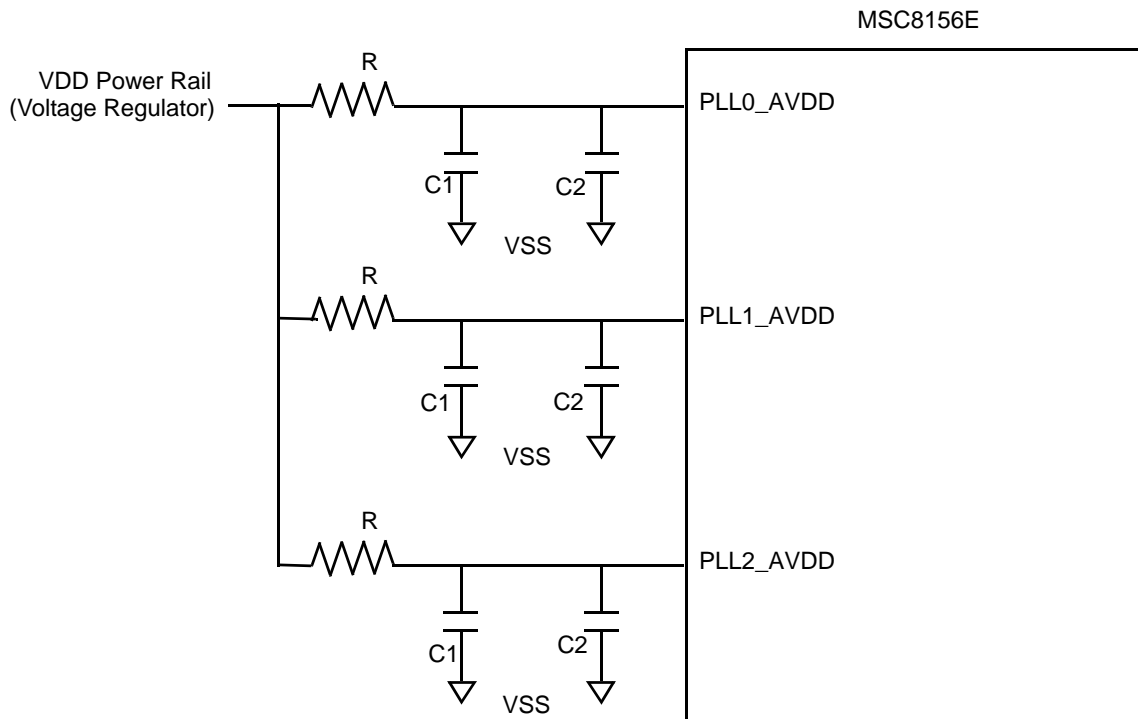

Figure 37. PLL Supplies
- Couple inputs PLL1_AVDD, PLL2_AVDD and PLL3_AVDD with the VDD power rail using an RC filter (see Figure 37).
Each global PLL power supply must have an external RC filter for the PLL_n_AVDD input (see Figure 37) in which the following components are defined as listed: